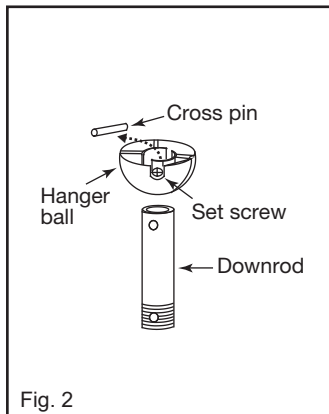

Fig. 2
Step 1. Remove hanger ball from downrod by loosening set screw in the side of the hanger ball. Slide hanger ball down and remove cross pin; remove hanger ball. (Fig. 2)